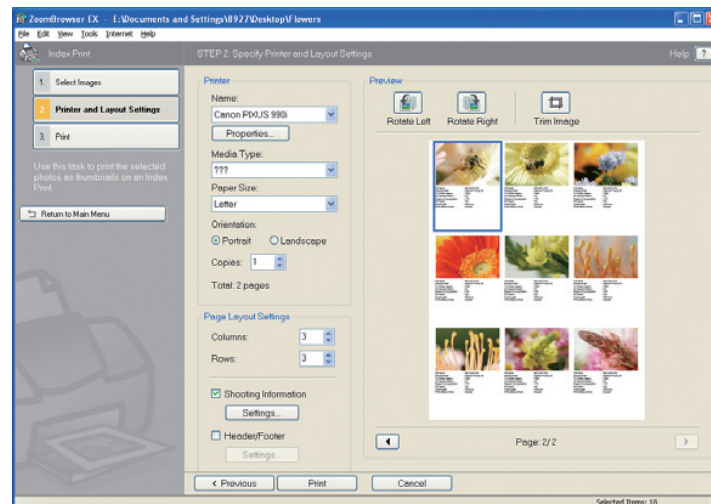

Fig. 005 Print index window
- A new "Print index" function has been provided in ZoomBrowser EX to enable standalone printing from ZoomBrowser EX (Fig. 005).